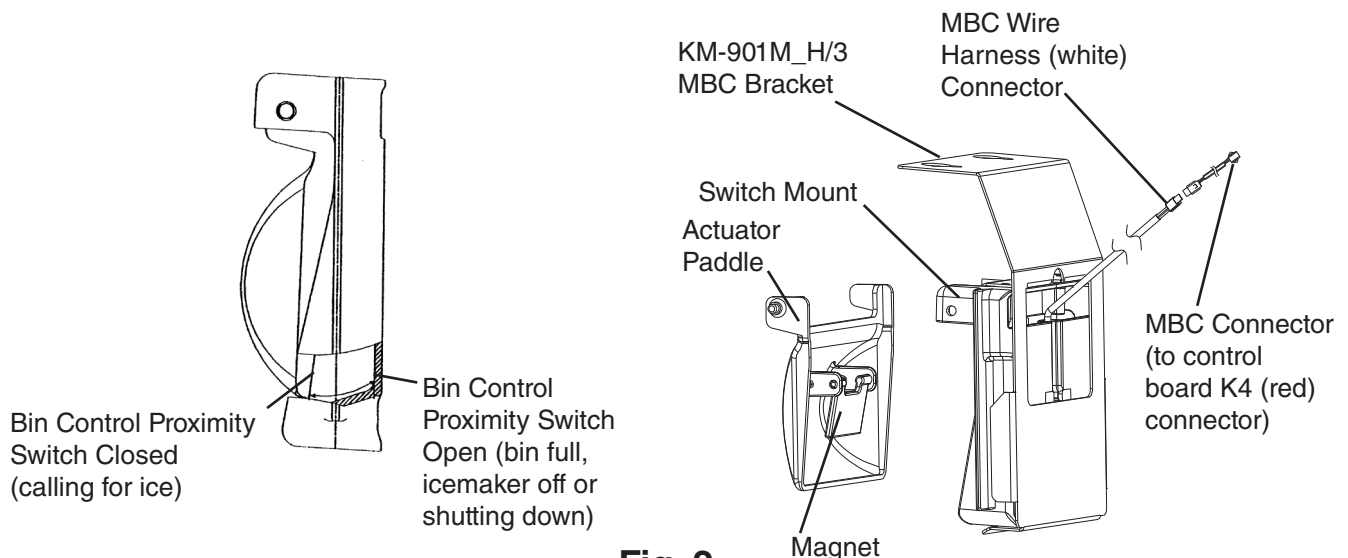

Fig. 2
- 5) Remove the actuator paddle from the switch mount. See Fig. 2.